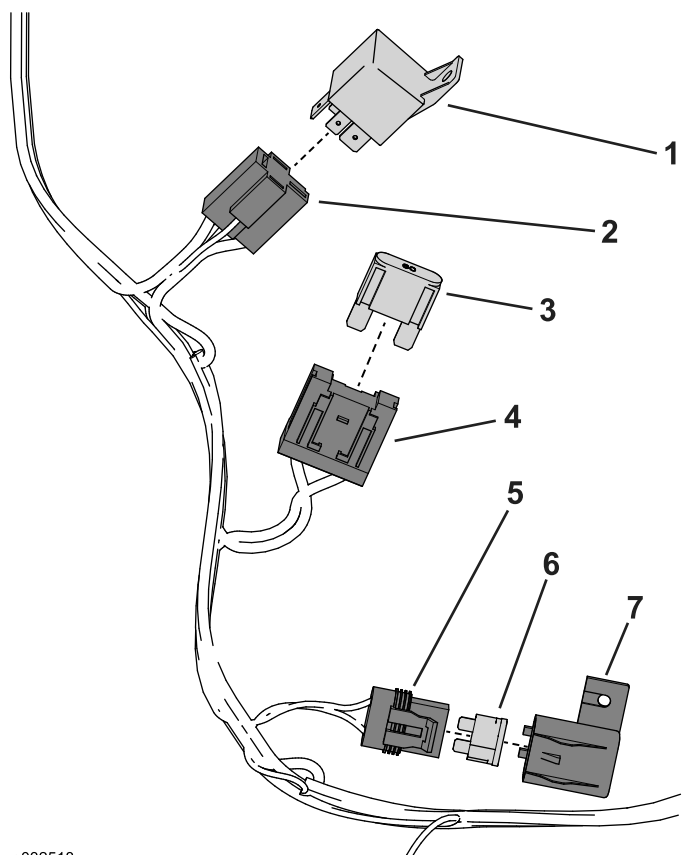

Figure 37
1. Assemble the following components to the wire harness (Figure 37).
2. Install the relay to the relay connector (Figure 37).
3. Install the fuse (60 A) to the fuse holder (Figure 37).
4. Install the fuse (10 A) to the fuse assembly and secure it with the fuse-assembly cap (Figure 37).